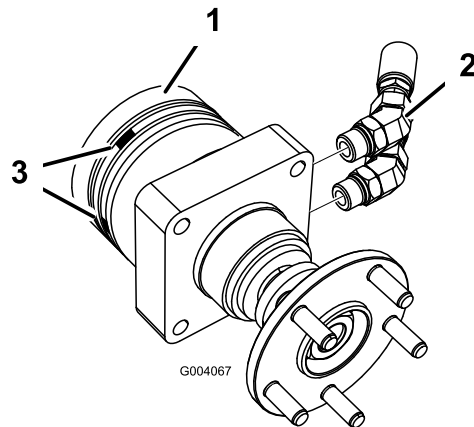

Figure 2
4. Install two 45° hydraulic fittings into each wheel motor assembly (Figure 2). Position the fittings so they point straight to the rear.